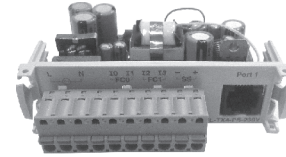
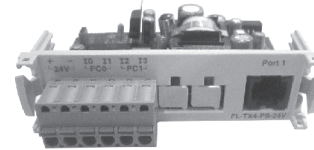

Figure 1.1 : FL-TX4-DI04-PS-230V-CE
Figure 1.2 : FL-TX4-DI04-PS-24V-CE
- FL-TX4-DI04-PS-230V-CE / FL-TX4-DI04-PS-24V-CE as shown in Figure 1.1 and Figure1.2 are used as a plug-in module in Flexys Panel TX4 and not as an independent module.